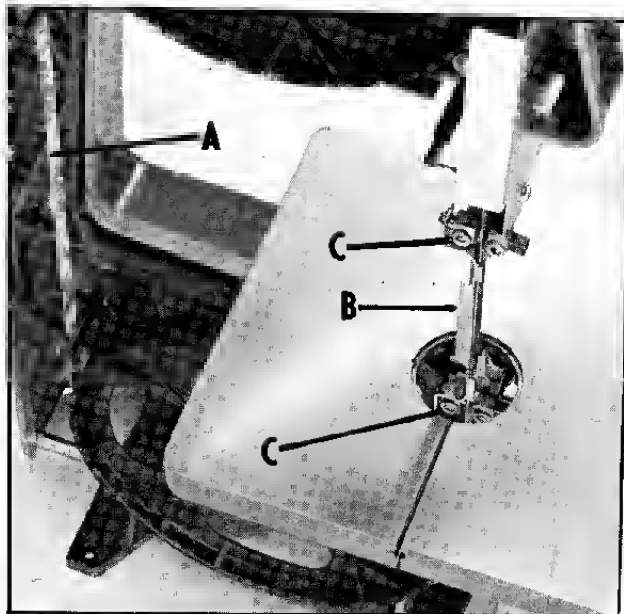

Fig. 28
7. Install sanding belt (A) Fig. 28, to the two wheels. The arrow on the back of the sanding belt indicates the direction of rotation for the belt.
9. Adjust the height of the upper blade guide bracket so that the platen guides can be inserted into the upper and lower blade guide slots, as shown in Fig. 28. Position platen (B) so it just touches the sanding belt and tighten two screws (C) Fig. 28.